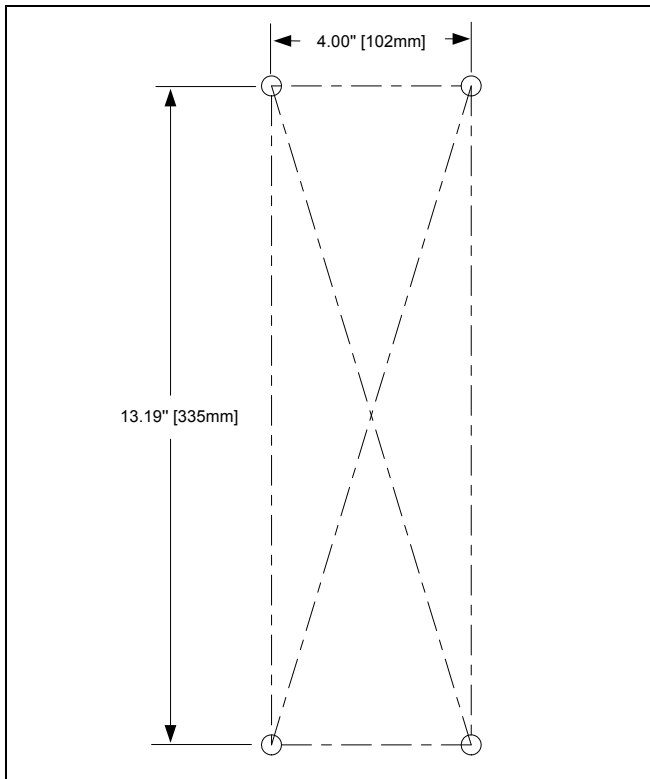
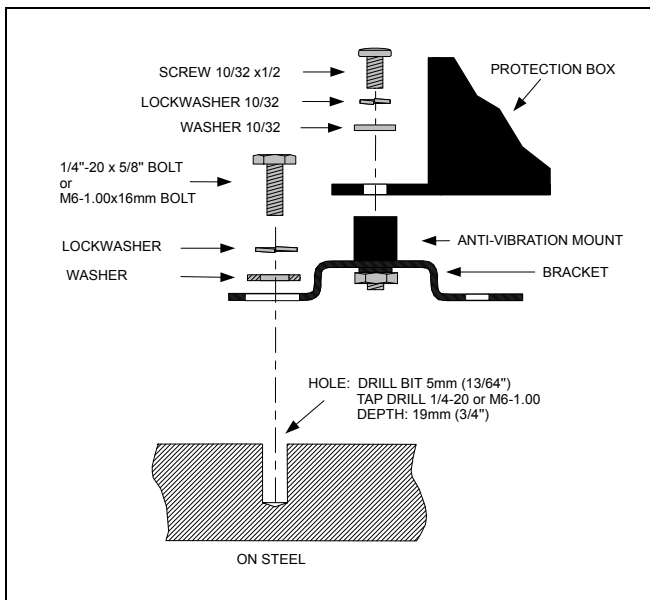
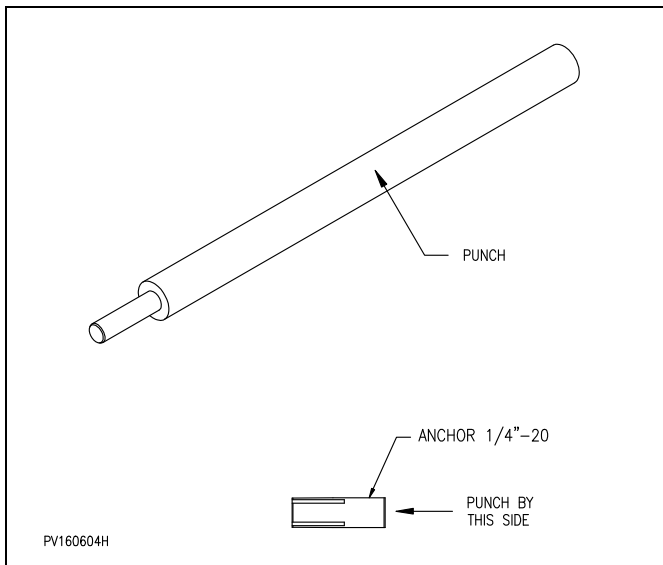

Figure 6 : Mounting holes location
Figure 7 : Fastening the ABS protection box on steel
Figure 9 : Anchor setting punch for concrete anchors
1. Drill (refer to *Figure 6* : "Mounting holes location") and thread into the structure (refer to *Figure 7* : "Fastening the ABS protection box on steel").
1. Drill into the concrete wall (refer to *Figure 6 : "Mounting holes location"*) and drive the anchor bolts with the special punch (*Figure 9 : "Anchor setting punch for concrete anchors"*).